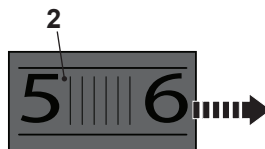

Fig. 12
3. Turn the speed dial (2) right (as seen from the operators position) to decrease the maximum speed (Fig. 12). A lower setting is suitable for sanding with coarse-grained sanding belts to remove paints and varnishes.